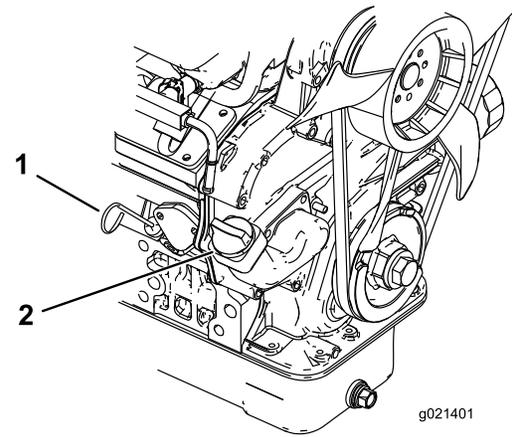

Figure 20
2. Remove the dipstick (Figure 20) and wipe it with a clean rag. Insert the dipstick into the tube and make sure it is seated fully. Remove dipstick and check the level of the oil.
3. If the oil level is low, remove the filler cap (Figure 20) and add enough oil to raise the level to the Full mark on the dipstick.